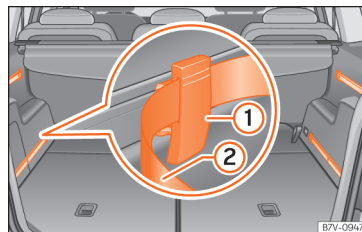

Fig. 146 In the luggage compartment: system including rails, adjustable attachment elements ① and adjustable tightening straps ②.
- Fit the attachment element with the ruts facing upwards » **Fig. 146** ① to the upper part of the guide and press downwards.